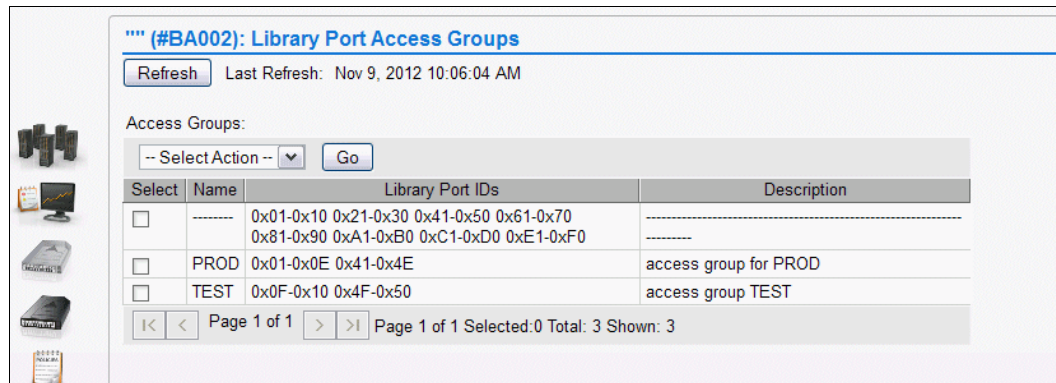

Figure I-14 Summary display of access groups
4. Check to see that each access group's ranges are not overlapping, as shown in Figure I-14.